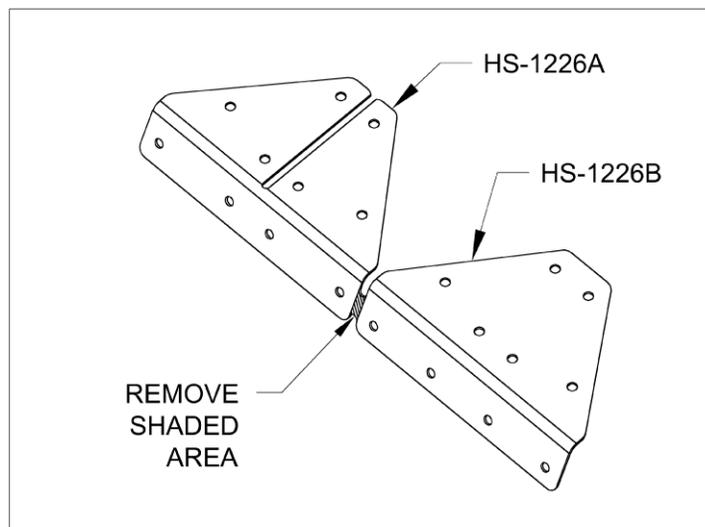

FIGURE 6: SEPARATE DOUBLERS
Step 12 (Cracked Skins): Separate the HS-1226 Doubler into two parts as shown in Figure 6.